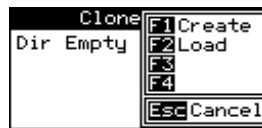

Figure 2 - Clone Unit Menu before Cloning
**NOTE:** In the above Figure 2, F3 and F4 are inactive in the clone Unit.